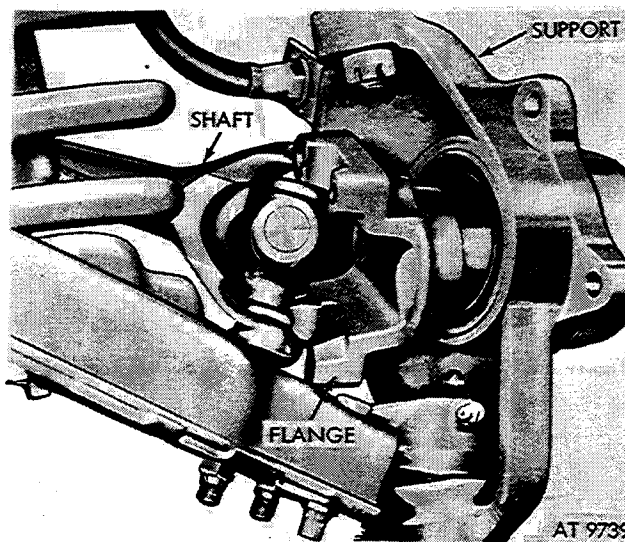

Figure 2-313. Position shaft to permit removal of wheel drive flange from support.
(3) Position wheel drive shaft aside and pull wheel drive flange from support (fig. 2-313).